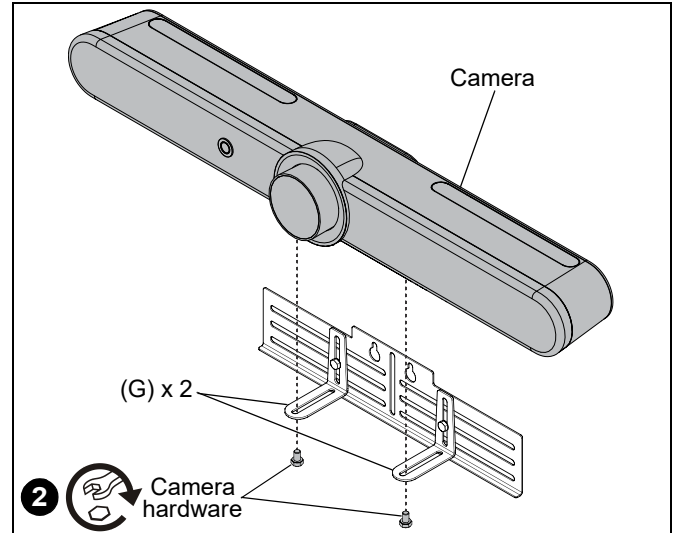

Figure 22
2. Install the camera to the camera brackets (G) using the hardware included with the camera. (See Figure 22)